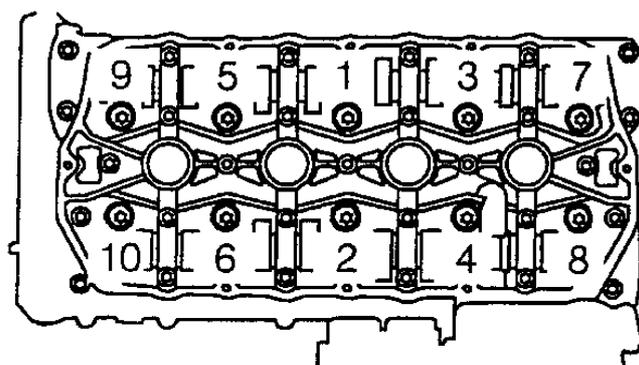

Figure 33
- Temporarily fit the front timing gears to their respective camshafts, as shown in figure 33, then rotating the gears with 18G 1521 to align the timing marks, inserting 18G 1570 to hold gears in position.
- Fit the front belt upper rear cover and tighten bolts to 10Nm, then fit camshaft gears to their respective camshafts making sure that the camshaft drive gear pins, figure 33, are located in the correct slot in the gears, retaining gears with 18G 1521, and tighten bolts to 65Nm: